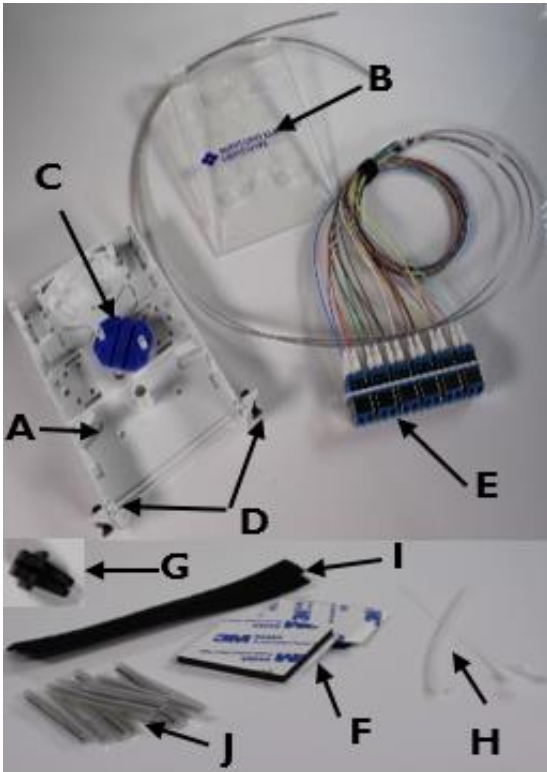

Figure 3
5.2 Figure 3 displays a 24 capacity FOX cassette with two ribbon terminations. This instruction sheet addresses both 900 μm breakout and terminations. Below is everything included with FOX cassette purchase.